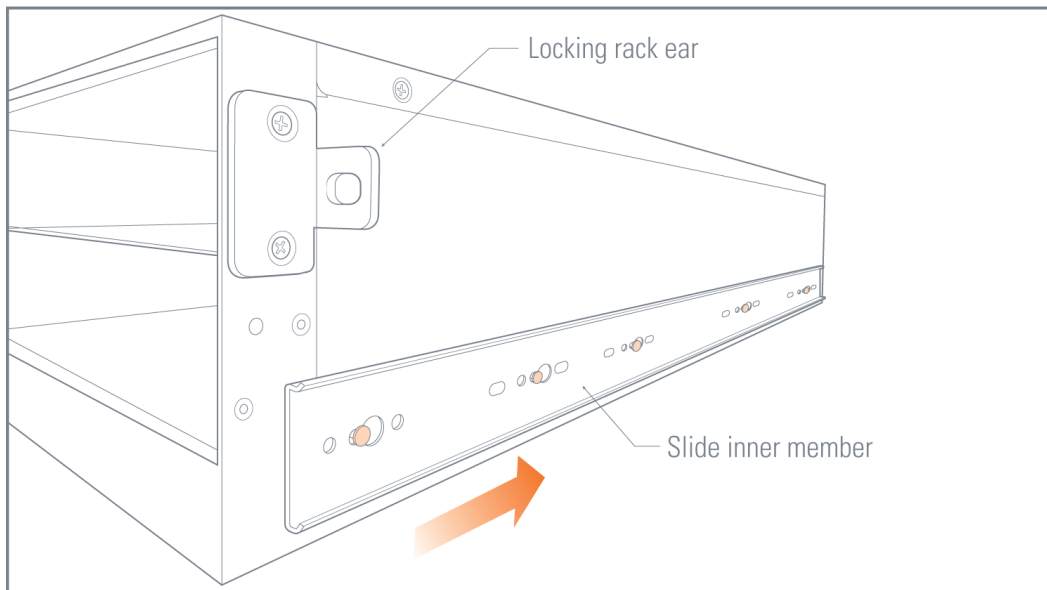

Figure 3 Slide Inner Member and Locking Rack Ear Installed on Chassis
6. Attach the left and right inner members of the mounting slide to the chassis and attach the locking rack ear to the chassis. Refer to Figure 3 Slide Inner Member and Locking Rack Ear Installed on Chassis.